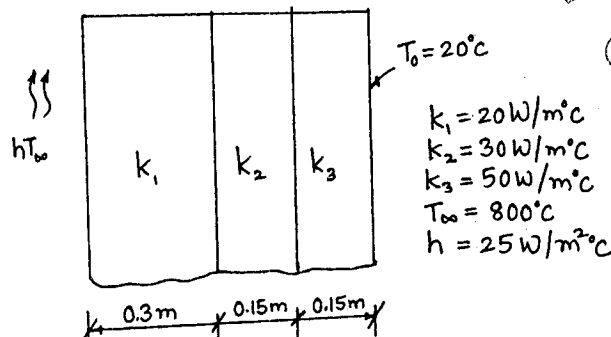

Fig.Q8(a)
- 8 a. Solve for temperature distribution in the composite wall shown in Fig.Q8(a). Using 1 – D heat elements, use penalty approach of handling boundary condition. (16 Marks)